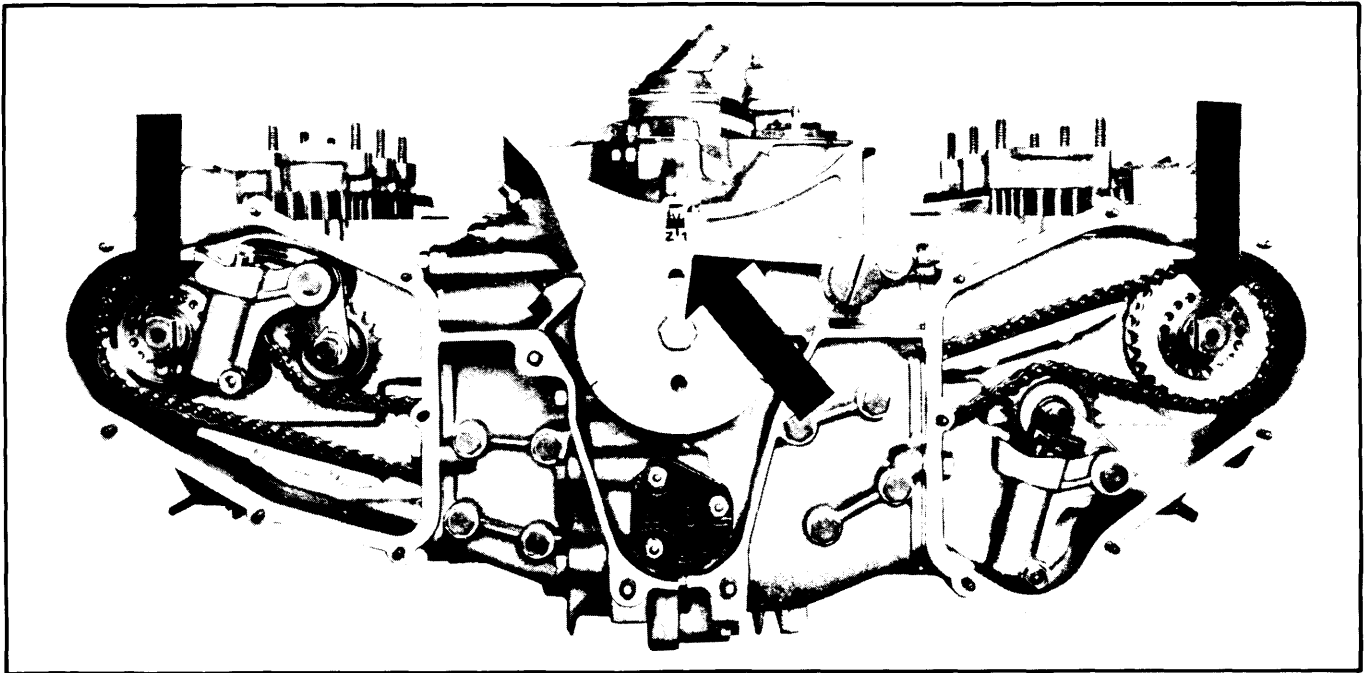

Fig. 13 Head on View of Engine Showing Valve Timing Marks
2) Use suitable tool (No. P 202) to rotate camshaft until dot on end of shaft is on top of camshaft vertical center line (see Fig. 13). Find hole in camshaft sprocket which exactly lines-up with camshaft flange and insert dowel pin. Install lock washer and nut.